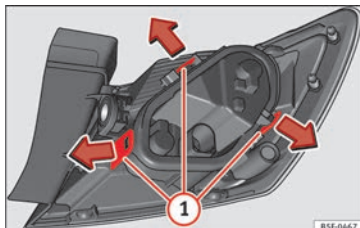

Fig. 113 Retaining tabs on reverse side of tail light.
- Remove the bulb holder » **Fig. 113** unlocking the retaining tabs ①.